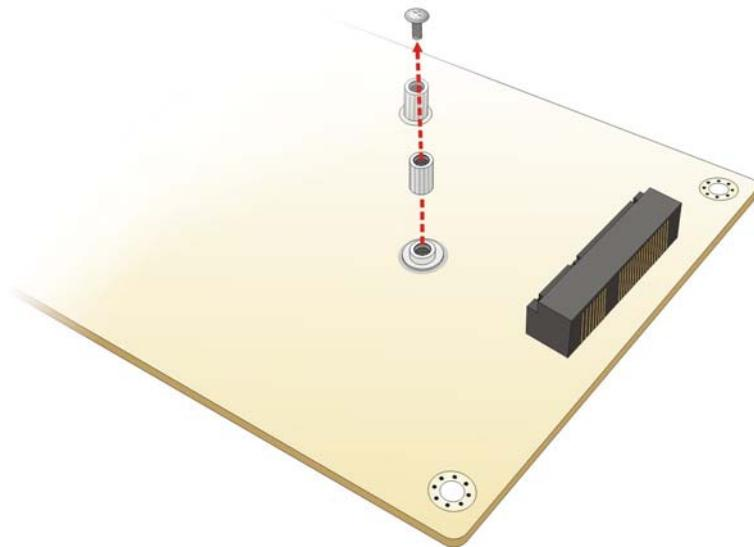

Figure 4-3: Removing the Retention Screw and Standoff
Step 3: Remove the retention screw and standoff. Unscrew and remove the retention screw and standoff for half-size PCIe Mini card secured on the motherboard as shown in **Figure 4-3**.
CN Location: See **Figure 4-3**
The location of the clear CMOS button is shown in **Figure 4-3**